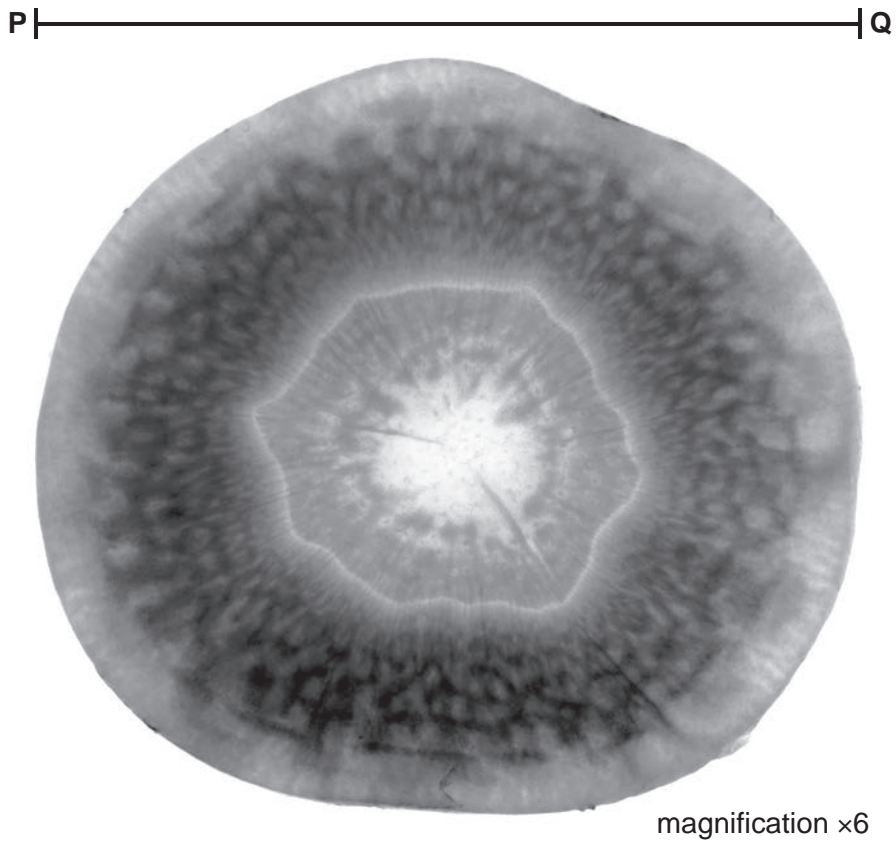

Fig. 2.1
2 Fig. 2.1 is a photograph of a cross-section of a root from a carrot plant, *Daucus carota*.
- (a) (i) Draw a large diagram of the carrot root cross-section that shows the layers visible in Fig. 2.1.
(ii) Line **PQ** on Fig. 2.1 represents the diameter of the carrot root cross-section.
Measure the length of line **PQ** on Fig. 2.1.
$$\text{magnification} = \frac{\text{length of line PQ in Fig. 2.1}}{\text{actual diameter of the carrot root cross-section}}$$